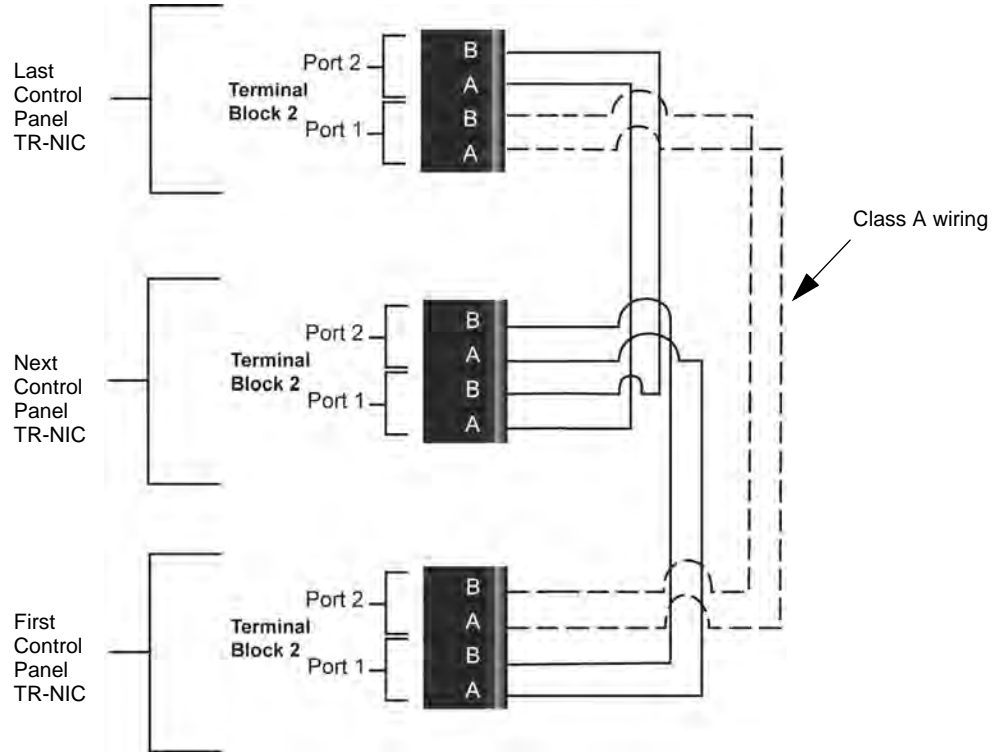
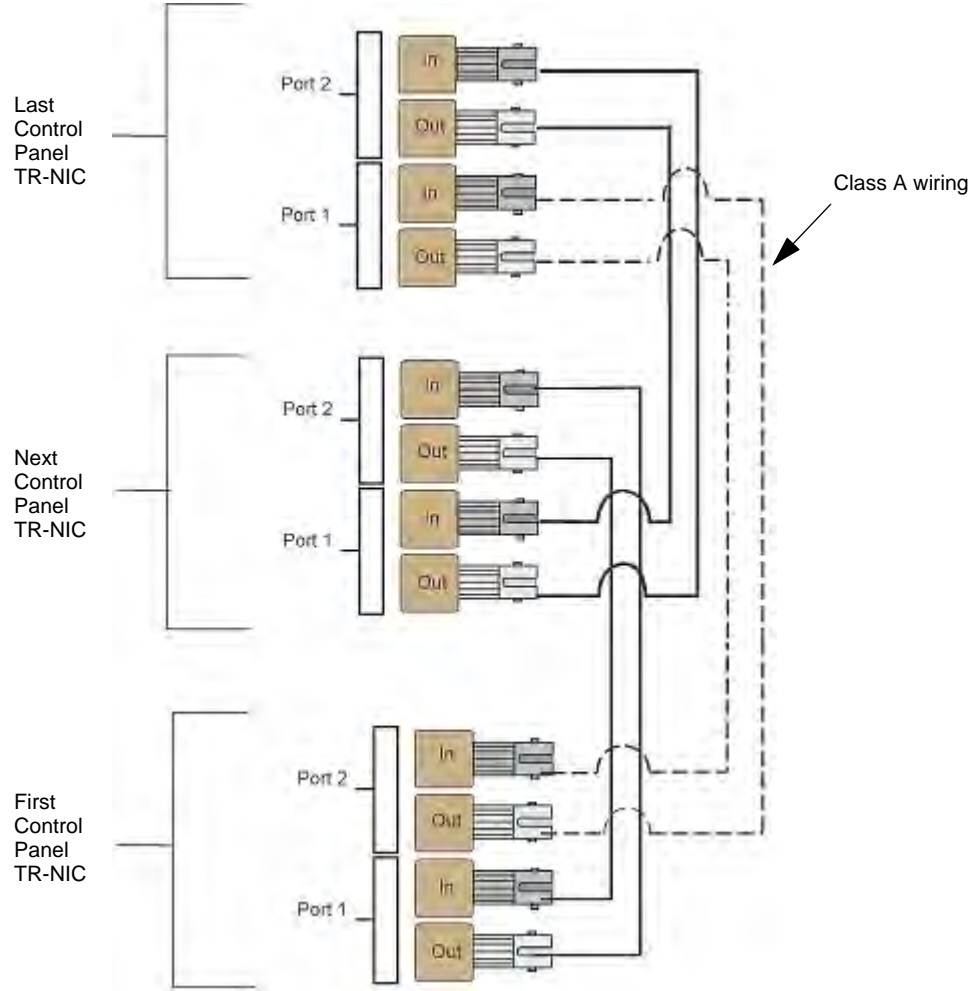
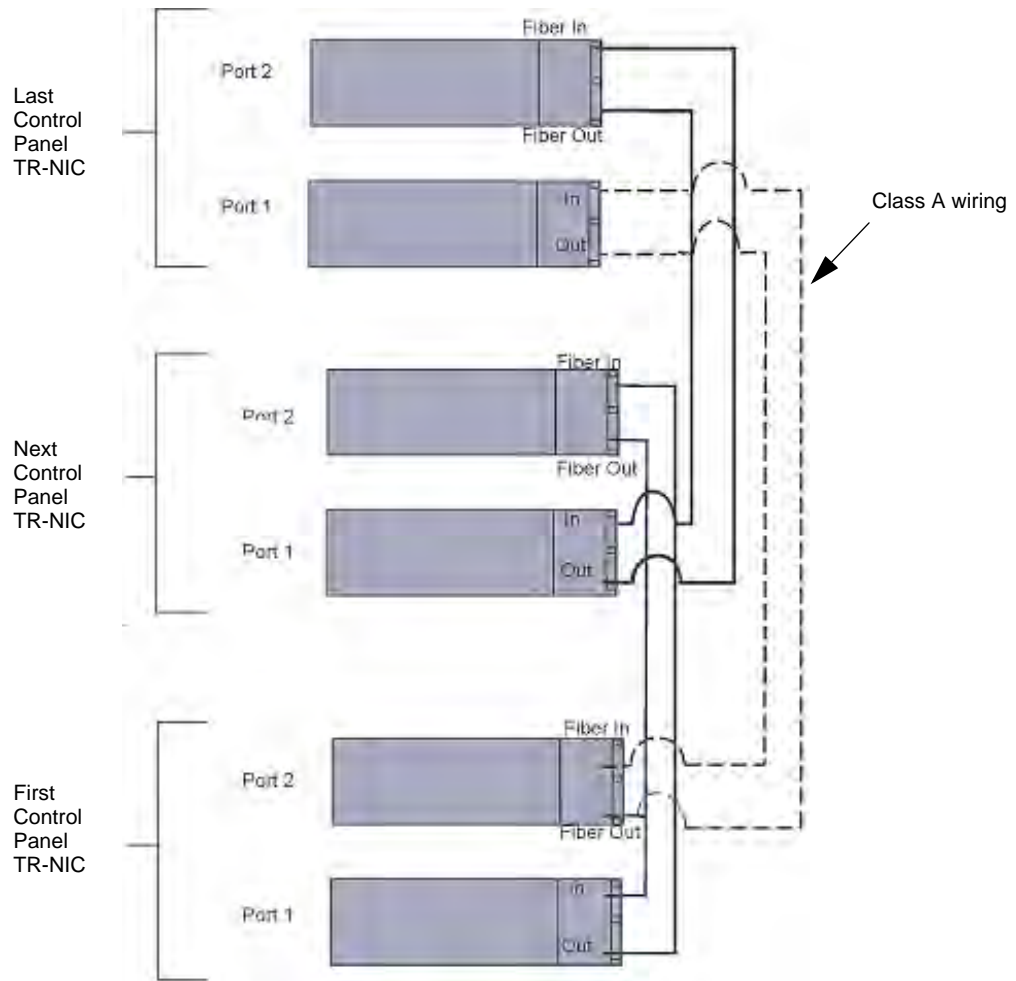
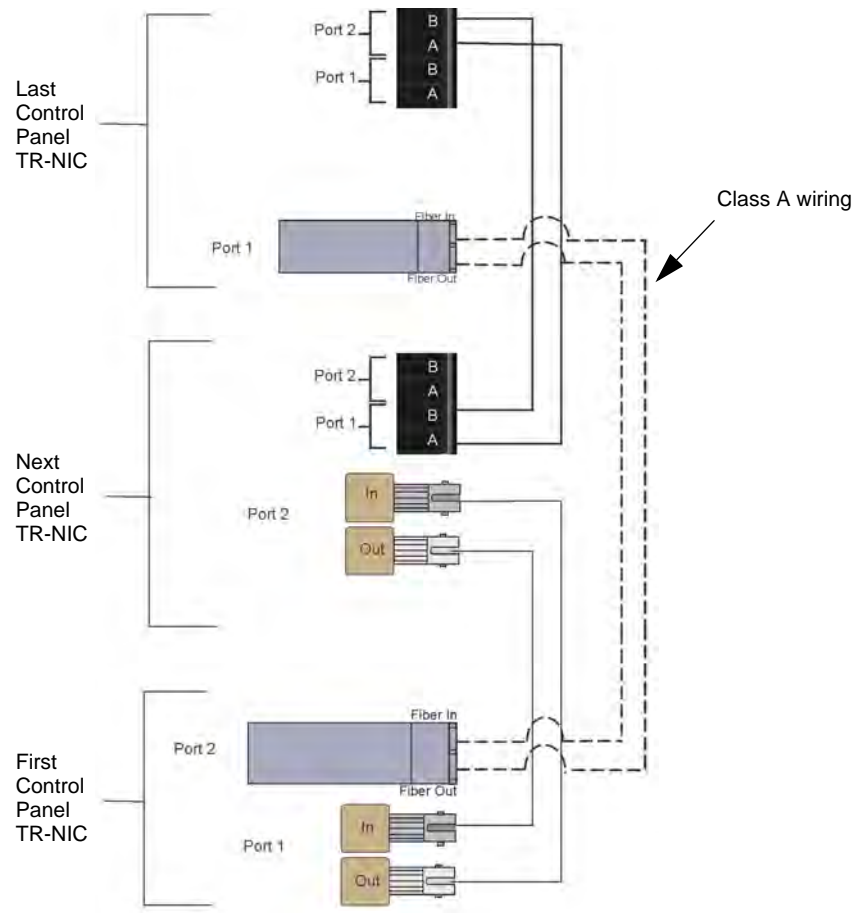

Figure 5.7 Twisted Pair Wiring Configuration
Figure 5.8 Fiber Optic Wiring Multi-Mode Example
Figure 5.9 Fiber Optic Wiring Single-Mode Example
Figure 5.10 Twisted Pair and Fiber Optic Combination Wiring Example
- Based on the type of data medium chosen, run the twisted pair wiring/fiber optic cable to the next TR-NIC using a class B or class A wiring method. A combination of both medium types can be used. See Figure 5.7, Figure 5.8, Figure 5.9, and Figure 5.10 for TR-NIC wiring examples.
Unshielded twisted pair wiring between multiple panels is shown in Figure 5.7. Class A wiring is shown with a dotted line.
Fiber optic cable between multiple panels is shown in Figure 5.8. Class A is shown with a dotted line.
A mixture of fiber optic cable and twisted pair wiring between multiple panels is shown in Figure 5.10. Class A cabling is shown with dotted line.